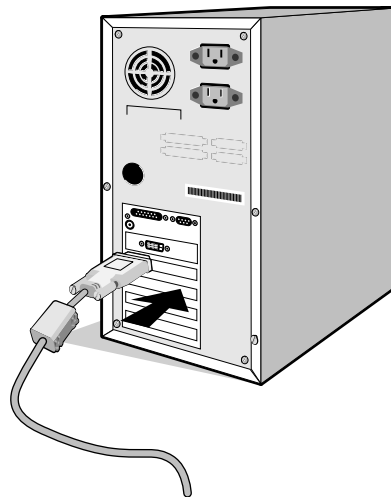

Figure A.1
3. **For the PC:** Connect one end of the signal cable to the connector of the display card in your system (**Figure A.1**). Tighten all screws.